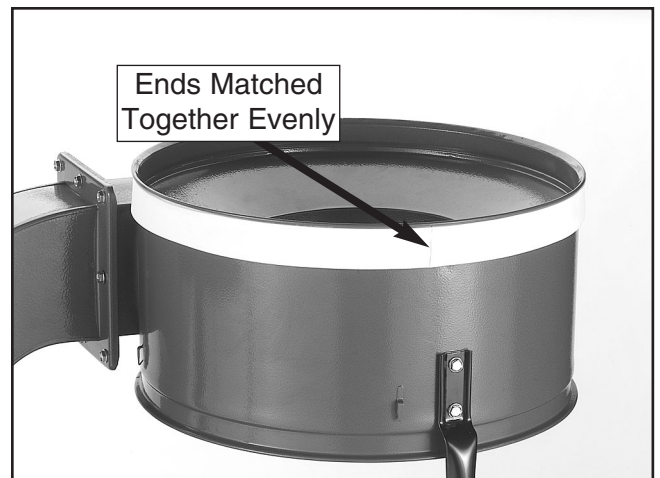

Figure 15. Trimmed foam strip.
2. Trim the excess foam strip so the ends come together evenly, (**Figure 15**).
3. Install the handle onto the top of the canister filter by tightening the hex bolt against the flat of the shaft (**Figure 15**).